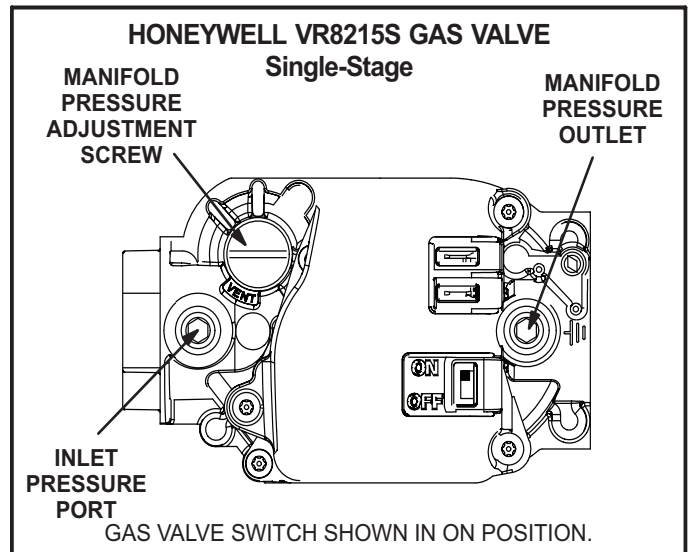

FIGURE 1
- 5 - Turn gas valve switch to **OFF**. See Figure 1, Figure 2, Figure 3, or Figure 4. On Honeywell VR8305Q gas valves, turn knob on gas valve clockwise  to **OFF**. Do not force. See Figure 5.
- 6 - Wait five (5) minutes to clear out any gas. If you then smell gas, **STOP!** Immediately call your gas supplier from a neighbor's phone. Follow the gas supplier's instructions. If you do not smell gas, go to the next step.
- 7 - Turn gas valve switch to **ON**. See Figure 1, Figure 2, Figure 3, or Figure 4. On Honeywell VR8305Q gas valves, turn knob on gas valve counterclockwise to **ON**. Do not force. See Figure 5.
Manifold pressures are shown in table 2. Refer to Figure 1, Figure 3, or Figure 4, or Figure 5 to locate pressure ports.